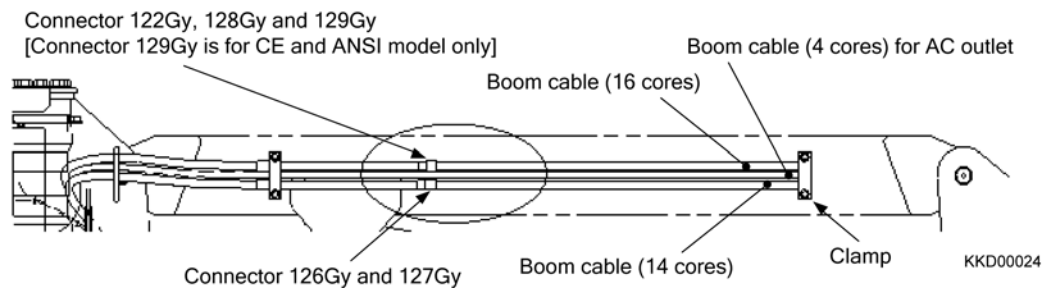

Fig. 2-49
- 4) Disconnect the boom cables (14 cores: Connector 126Gy, 127Gy) and (16 cores: Connector 122Gy, 128Gy, 129Gy). (Fig. 2-49)